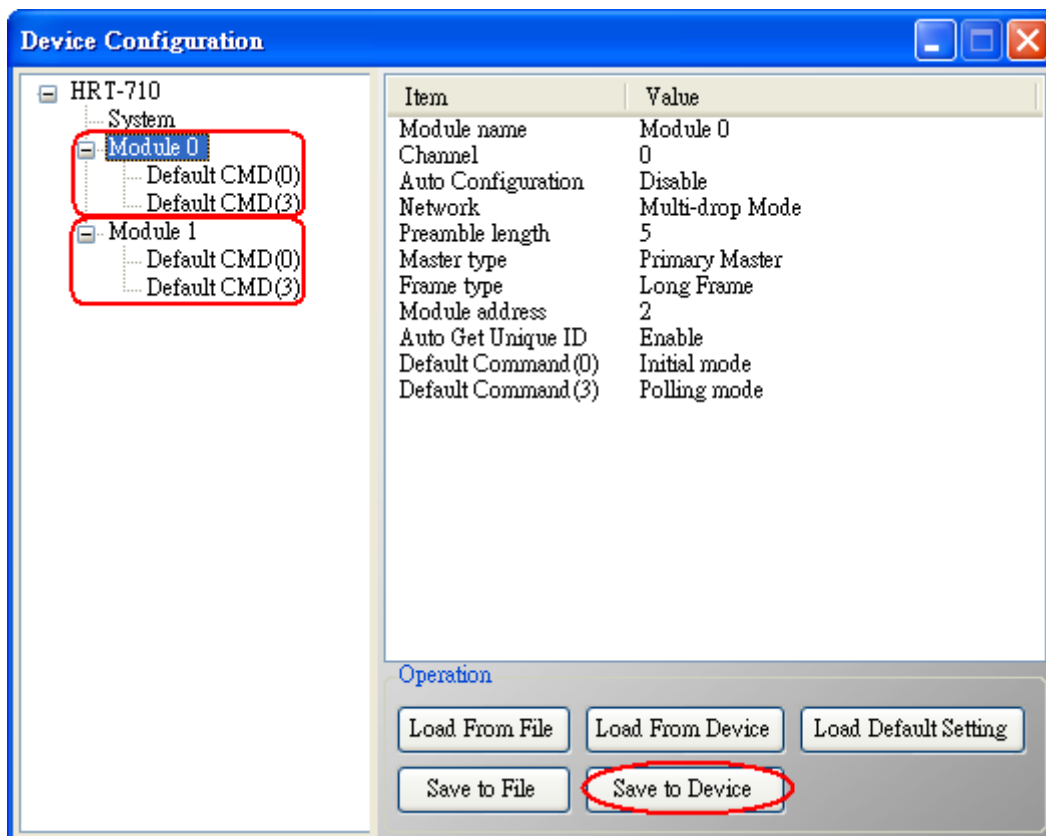

Figure 1-7 “Save to Device” function
- (1) Click the “Save to Device” button to save the new HART device setting to HRT-710 like Figure 1-7.